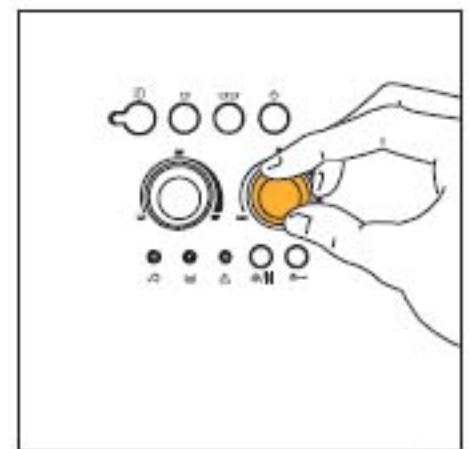

Fig.7
- 2) Adjust the right-hand knob (Fig. 7) to set the desired taste of the coffee. Turning the knob clockwise increases the quantity of coffee beans that the machine will grind, and thus makes the taste of the coffee stronger. When using the machine for the first time, the correct position of the knob can be found by trial and error. Make sure not to turn it too far clockwise, otherwise the coffee will be delivered too slowly (in drops), above all when preparing two cups of coffee.
NOTE 2: If the coffee is delivered too fast and is not creamy enough, turn the right-hand knob (fig. 7) clockwise. Proceed by trial and error to find the correct position of the knob. Make sure not to turn the knob too far clockwise, otherwise the delivery may become too slow (in drops), above all when making two cups of coffee. If, after several coffees, the cream is still not satisfactory, also turn the grinding adjustment knob (Fig. 17) one click clockwise (see par. 6).